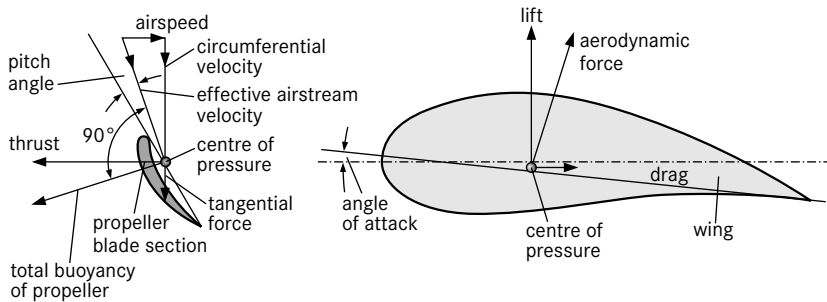

Figure 1.8 Cross-section of an airfoil and the various forces at work
4. The principles of airfoil design are also applicable to propeller blades. The function of the propeller is to convert the torque developed by the engine into a propulsive thrust to drive the aircraft forward. This thrust is produced by acceleration of the air around the propeller. Since the velocity at each blade section is a function of radius, the blades are twisted to maintain a favourable angle of attack all along the blade. The principal forces and velocities associated with the action of the propeller are shown in Figure 1.8. The pitch angle of the propeller blade corresponds to the angle of attack of the wing: it is the angle between the blade chord line and the plane of rotation. A variable-pitch propeller is designed to maintain propeller efficiency as the forward velocity changes. The pitch setting can be changed while the propeller is rotating.